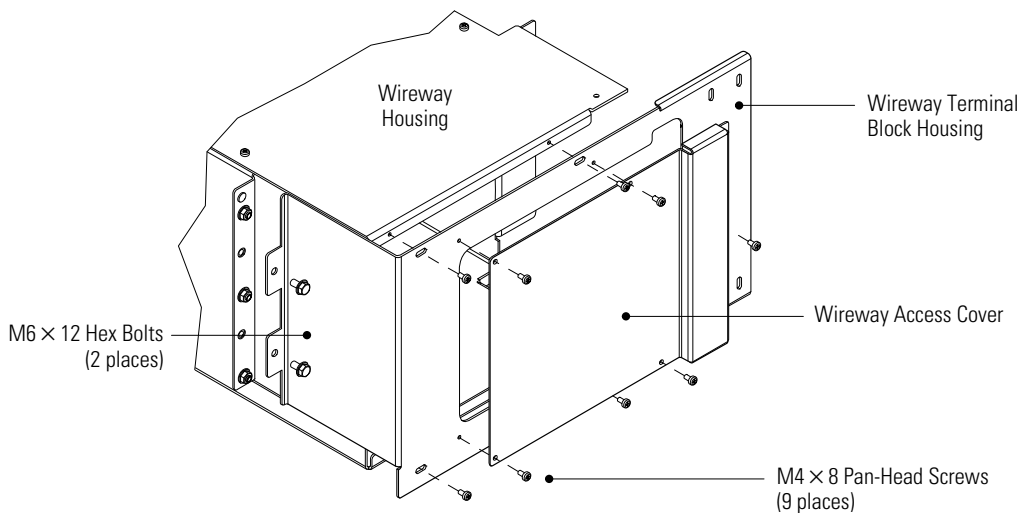
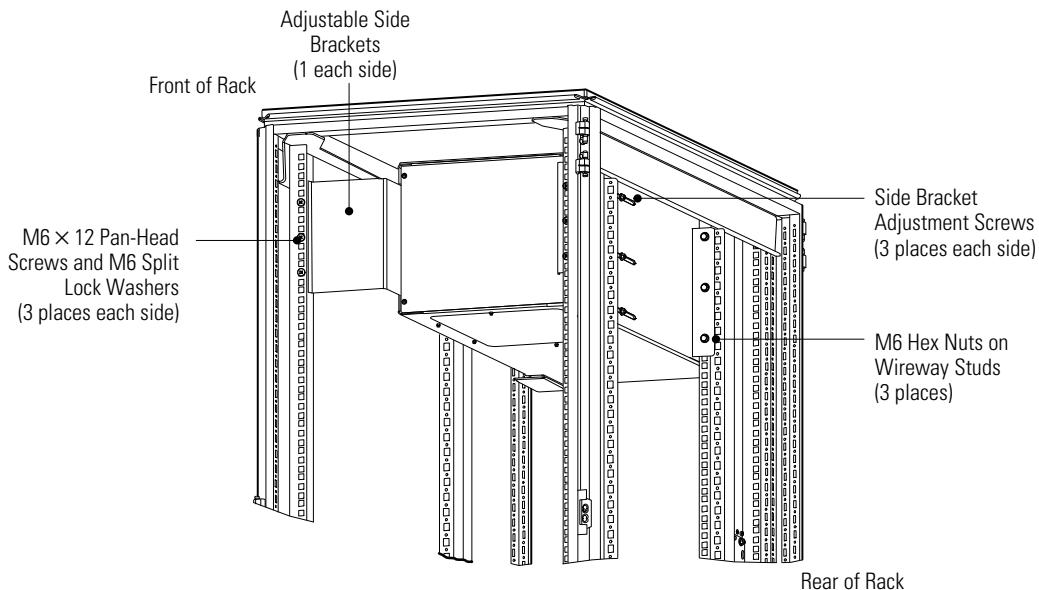

Figure 12. Wireway Disassembly
Figure 13. Wireway Installation
1. Remove the access cover and terminal block housing from the wireway housing (see Figure 12). Retain the wireway terminal block housing, wireway access cover, bolts, and screws. Leave the two side brackets installed on the wireway housing (see side bracket locations in Figure 13).
3. Place the wireway housing into the top of the rack so that the adjustable side brackets are nearest the front of the rack (see Figure 13).